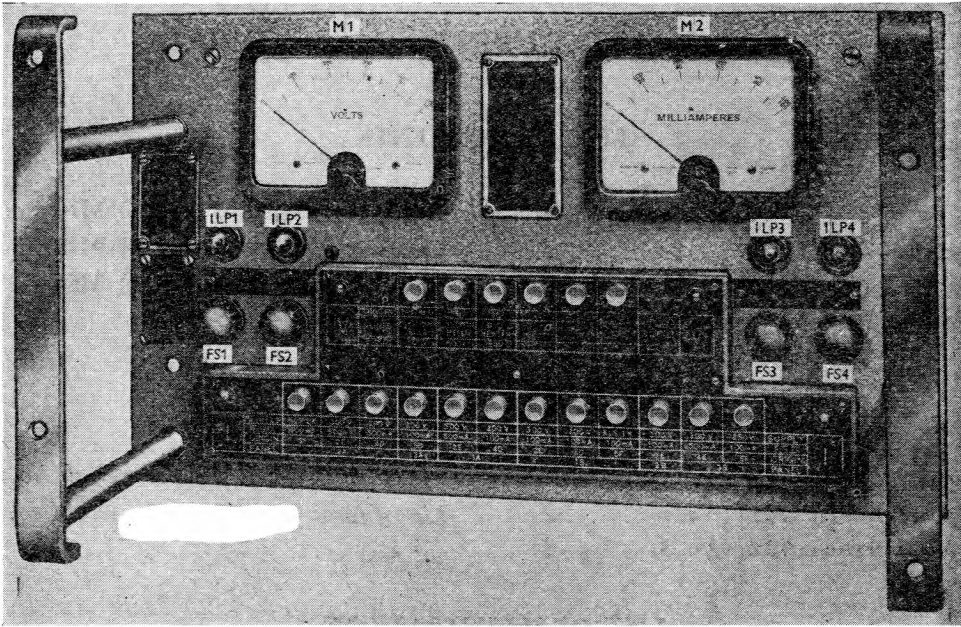

Fig. 1. Panel, test electrical (No. 1) M9: front view
3. This test panel (*fig. 1 and 2*) is located on the L.H. cabinet gate at position 1A. The panel dimensions are: height 9 in., length 9 in., width  $15\frac{3}{8}$  in., and the weight is  $6\frac{1}{2}$  lb. Eighteen push-buttons mounted on the front of the panel select the various functions.